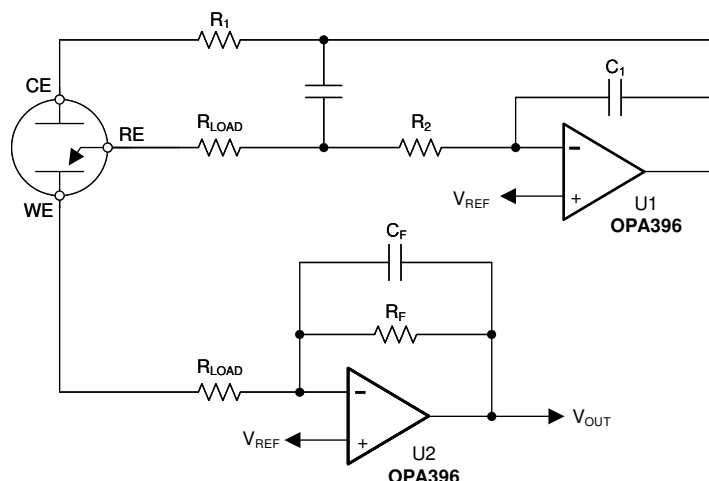

Figure 8-1. Three-Terminal CO Gas Sensor
Figure 8-1 shows a simple micropower potentiostat circuit for use with three-terminal unbiased CO sensors. This same design is applicable to many other type of three-terminal gas sensors or electrochemical cells. The basic sensor has three electrodes: the sense or working electrode (WE), counter electrode (CE) and reference electrode (RE). A current flows between CE and WE proportional to the detected concentration. The RE monitors the potential of the internal reference point. For an unbiased sensor, the WE and RE must be maintained at the same potential by adjusting the bias on CE. Through the potentiostat circuit formed by U1, the servo feedback action maintains the RE pin at a potential set by V_{REF} . R1 maintains stability as a result of the large capacitance of the sensor. C1 and R2 form the potentiostat integrator and set the feedback time constant. U2 forms a transimpedance amplifier (TIA) to convert the resulting sensor current into a proportional voltage. The transimpedance gain, and resulting sensitivity, is set by R_F according to Equation 1: